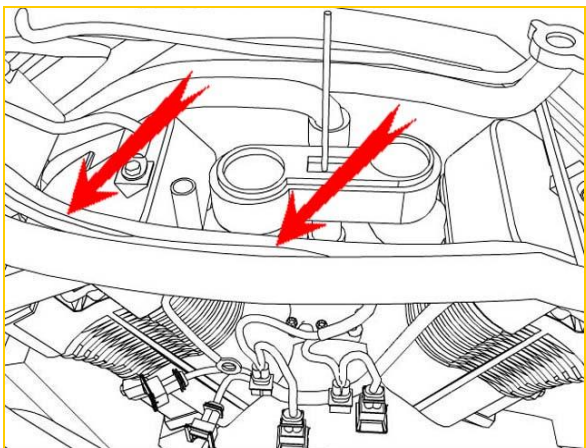

Fig 11
12. Continue pulling the Zodiac Tfi harness through, routing it on top of the main (plastic braid covered) harness. Route the connectors inside the frame, down through the engine V and out where the stock injector harness is. (Fig 11)